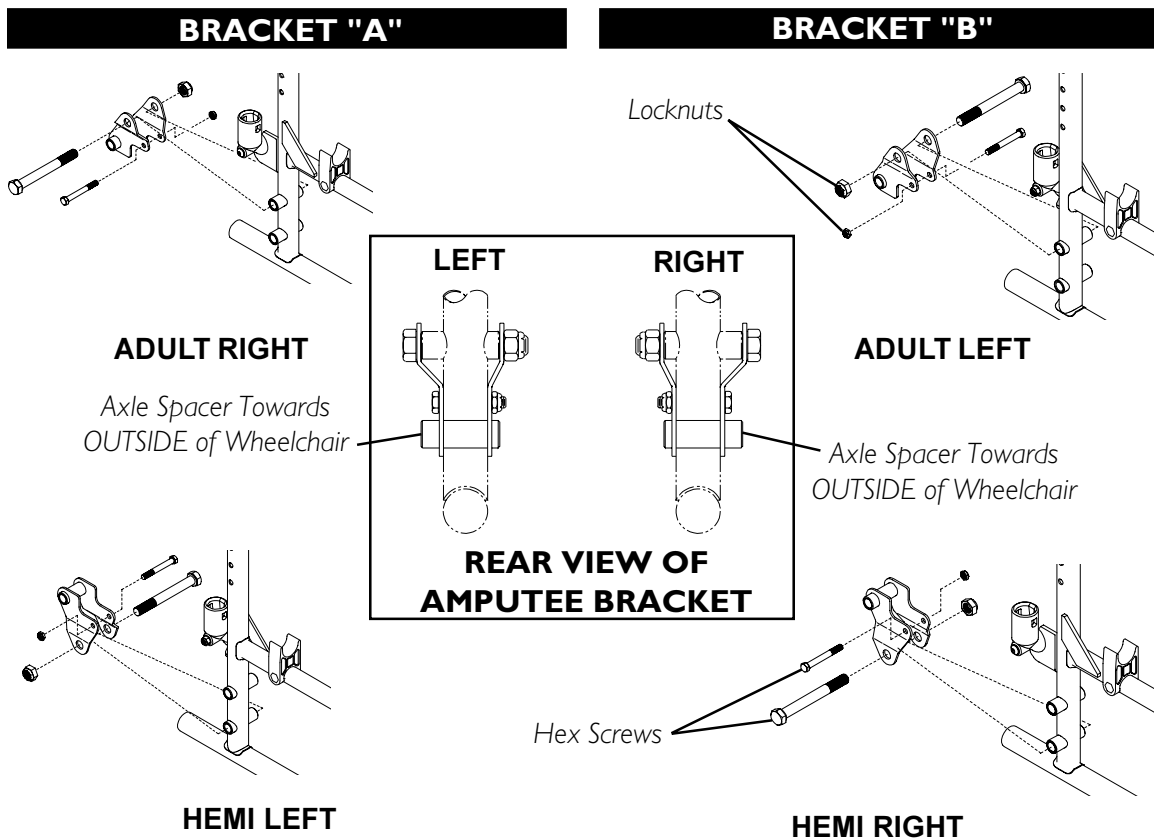

FIGURE 5 - INSTALLING THE AMPUTEE BRACKET - 9000SL/XT
9000SL/XT (FIGURE 5)
1. Refer to the following chart or FIGURE 5 to determine the mounting position of the amputee bracket: